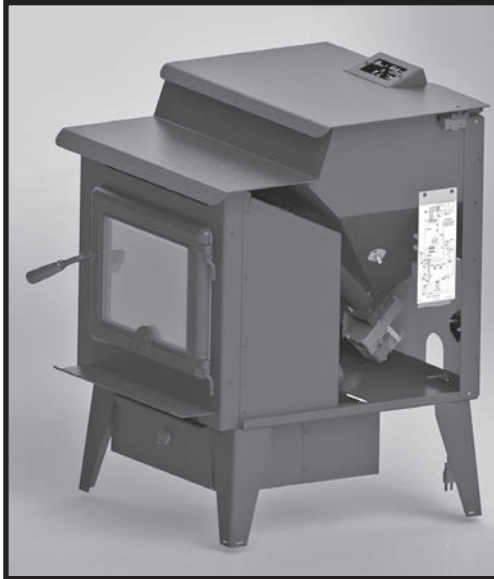

Figure 19: Main board location.
1. Unplug the stove from the electrical outlet. Open the right cabinet side (See "Inspect Gaskets" on page 14) and remove the 2 screws holding the main board to the side of the hopper (Figure 19).